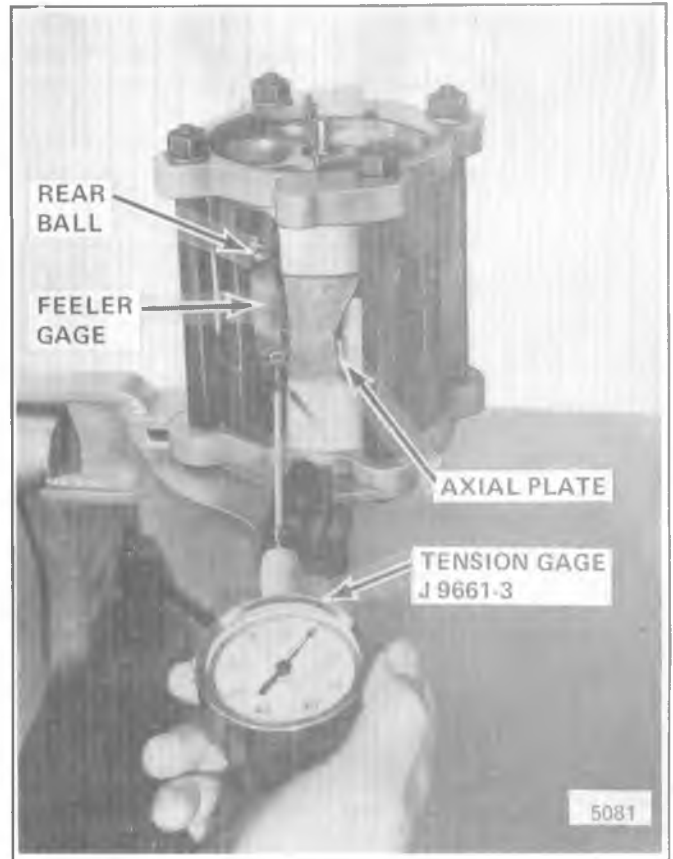

Fig. 1D-40 Gaging A-6 Rear Piston Ball
18. Select a "numbered" shoe disc corresponding to minimum feeler gage reading recorded in the three checks just made above. (See example in Fig. 1D-42). Place the selected shoe discs in Parts Tray J 9402 compartment corresponding to Piston No. 1 and Rear Ball pocket position.
Shoe discs are provided in .01mm (.0005") (one-half thousandths) variations. There are a total of 11 sizes available for field servicing. All shoe discs are marked with the shoe size, which corresponds to the last three digits of the piece part number. (See Shoe Disc Size Chart in Fig. 1D-41.)
20A. Mount Dial Indicator J 8001 on edge of Compressing Fixture J 9397 with Clamp J 8001-1 and Sleeve J 8001-2 (Fig. 1D-43). Position Dial Indicator on rear end of axial shaft and adjust to "zero."